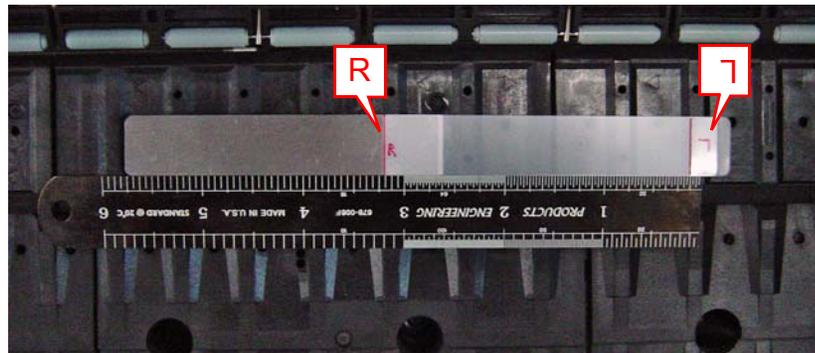

Figure 5-18. Position of the Adjustment jig
6. See Figure 5-18 and secure the ruler on the Platen with the double-sided tape.
NOTE: Make sure to set the Ruler and the jig on the position A as shown in Figure 5-18.